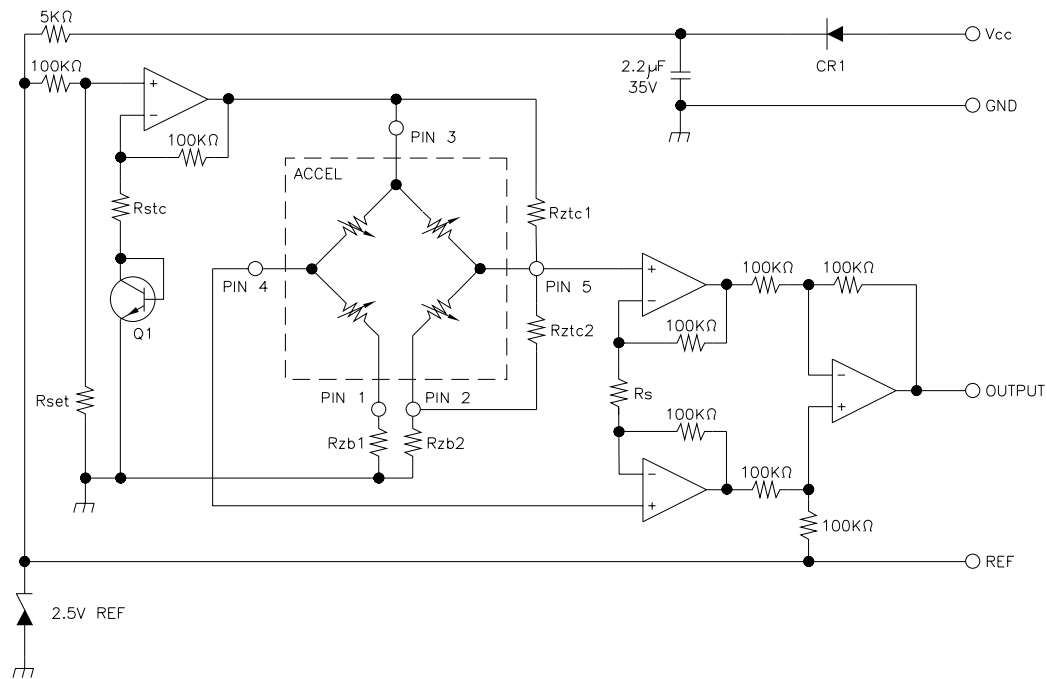

Figure 2. Typical Temperature Compensation and Amplification Circuit (component values specified for each sensor)
- Percentage values are with external compensation. The uncompensated temperature coefficients are measured and specified with each unit. In addition, the values of the resistors that provide a temperature compensated output are provided with each unit. These resistors are for use in the circuit shown in Figure 2.